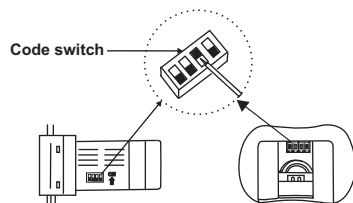

Figure 9
**NOTE:** This remote control unit is equipped with 16 code combinations to prevent possible interference from or to other remote units. The frequency switches on your receiver and transmitter have been preset at the factory. Please recheck to make sure the switches on transmitter and receiver are set to the same position, any combination of settings will operate the fan as long as the transmitter and receiver are set to the same position. (Figure 9)